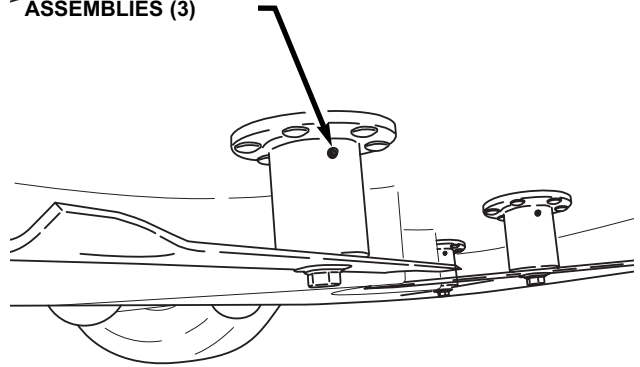

FIGURE 4.4
- d. Lubricate with Kendall NLGI No. 2 lithium grease or equivalent, from a grease gun, until grease purges from the vent located on opposite side of spindle housing underneath deck. See Figure 4.4.